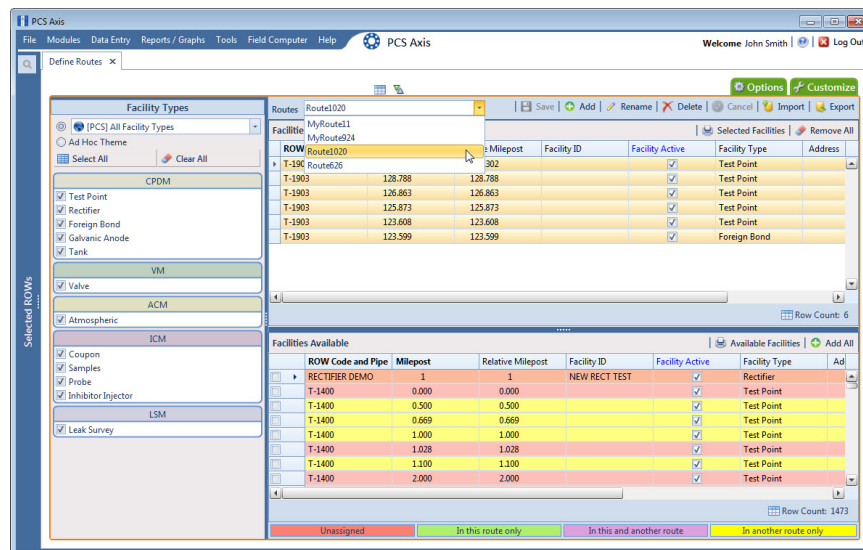

Figure 8-1. Define Routes Selection List
- 3 Click the down arrow in **Routes** and select a route in the selection list (Figure 8-1).
- b Click **Data Entry > Define Routes**, then click the down arrow in **Routes** and select a route (Figure 8-1, page 382).